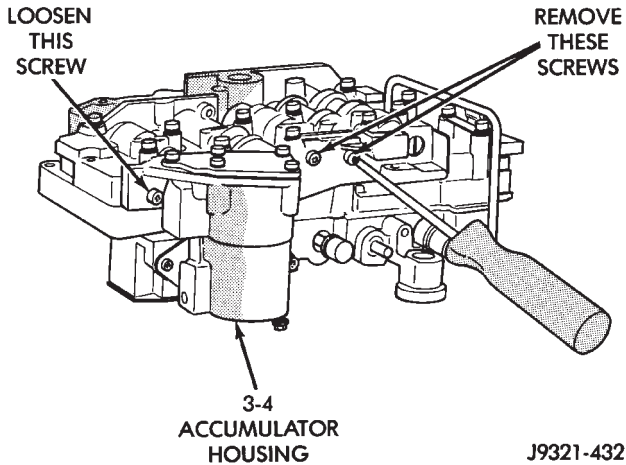

Fig. 62 Accumulator Housing Screw Locations
(23) Loosen left-side 3-4 accumulator housing attaching screw about 2-3 threads. Then remove center and right-side housing attaching screws (Fig. 62).